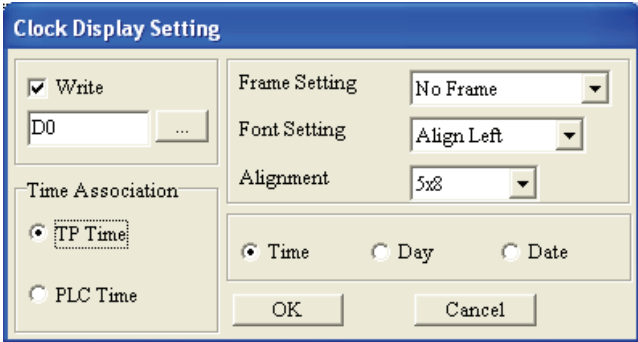

Figure 1-99
- Step 1. After choose **Object(O) > Clock Display (C)** command from the menu bar or click the icon  to create a Clock Display object on the screen. Double-click the object by using the mouse, the following Clock Display Setting tab will pop up (Figure 1-99).